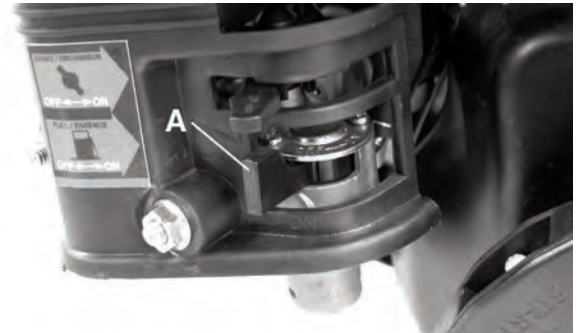

Figure 27
- 3) Turn fuel shut-off valve to the “OFF” position as shown in Fig.27.